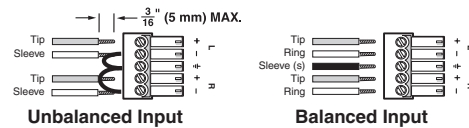
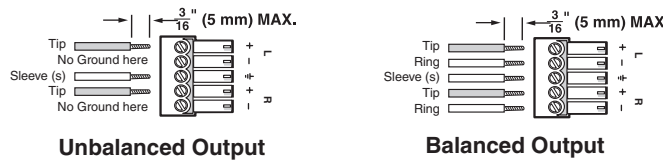

Figure 3. Wiring the Audio Input Connectors
Figure 4. Wiring the Audio Output Connectors
3. **Attach the cables to the audio input and output devices.** Wire the connectors (see figure 3 on page 4 and figure 4 on page 4).